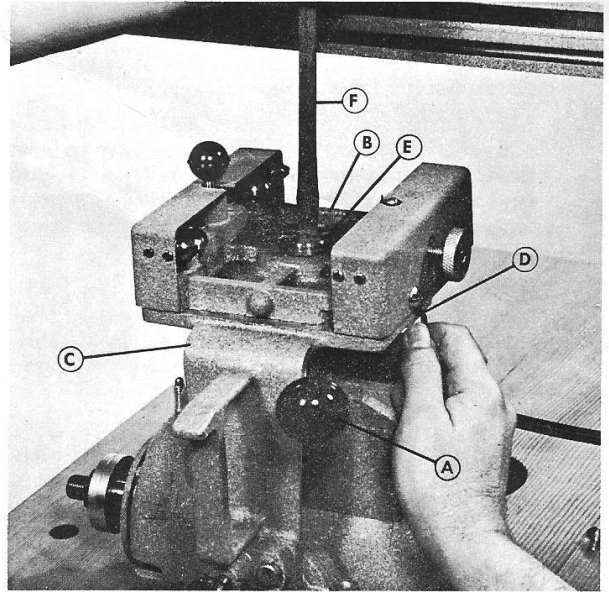

FIGURE 5
Check yoke and bearing carriage for tightness, see Fig. 5. If "play" develops between yoke (C) and carriage (B) it means that yoke clamp (A) requires re-setting.
3. Pull yoke clamp handle (A) Fig. 5 to loosen. Also loosen dog point set screw (D) with wrench.
4. Turn slotted bolt (E) with heavy screw driver (F) CLOCKWISE until dog point set screw (D) can be fitted into next slot in bolt (E). Tighten into slot. Re-tighten yoke clamp handle (A) and again check. Repeat above operation if necessary.